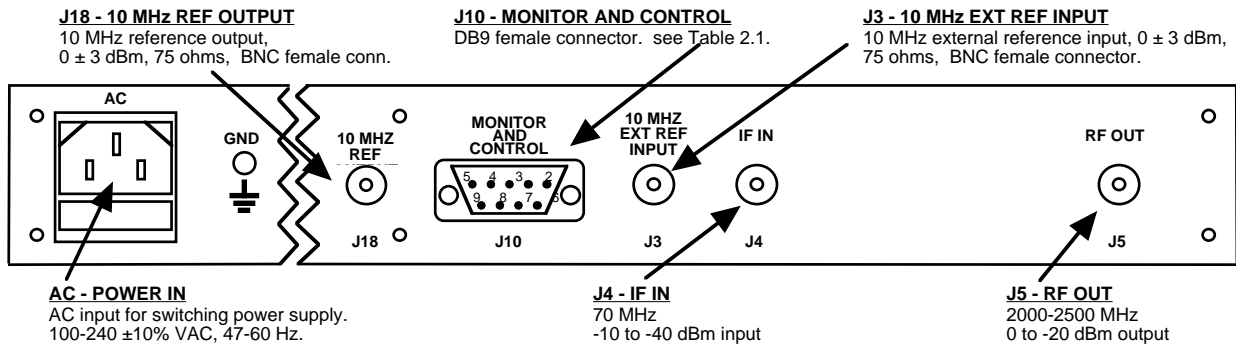

FIGURE 2.2 Rear Panel Inputs and Outputs
Figure 2.2 shows the input and output connectors on the rear panel.
1. Connect a -10 dBm to -40 dBm, 70 MHz signal to IF IN, J4 (Figure 2.2)
Alarm indications appear on the LEDs (see figure 2.2).